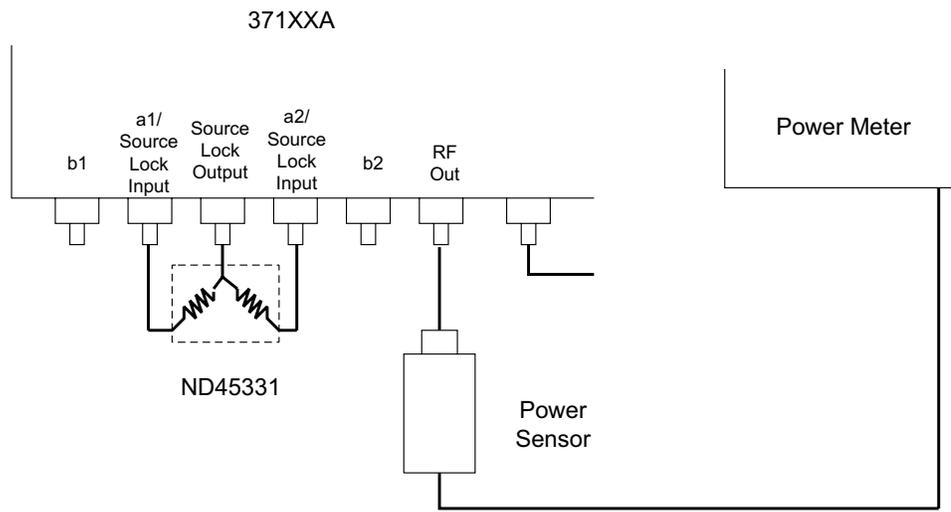

Figure 4-5. Source Power Level Setup
Step 1. Set up the equipment per Figure 4-5. Do not connect the Power Sensor to RF Out at this time.